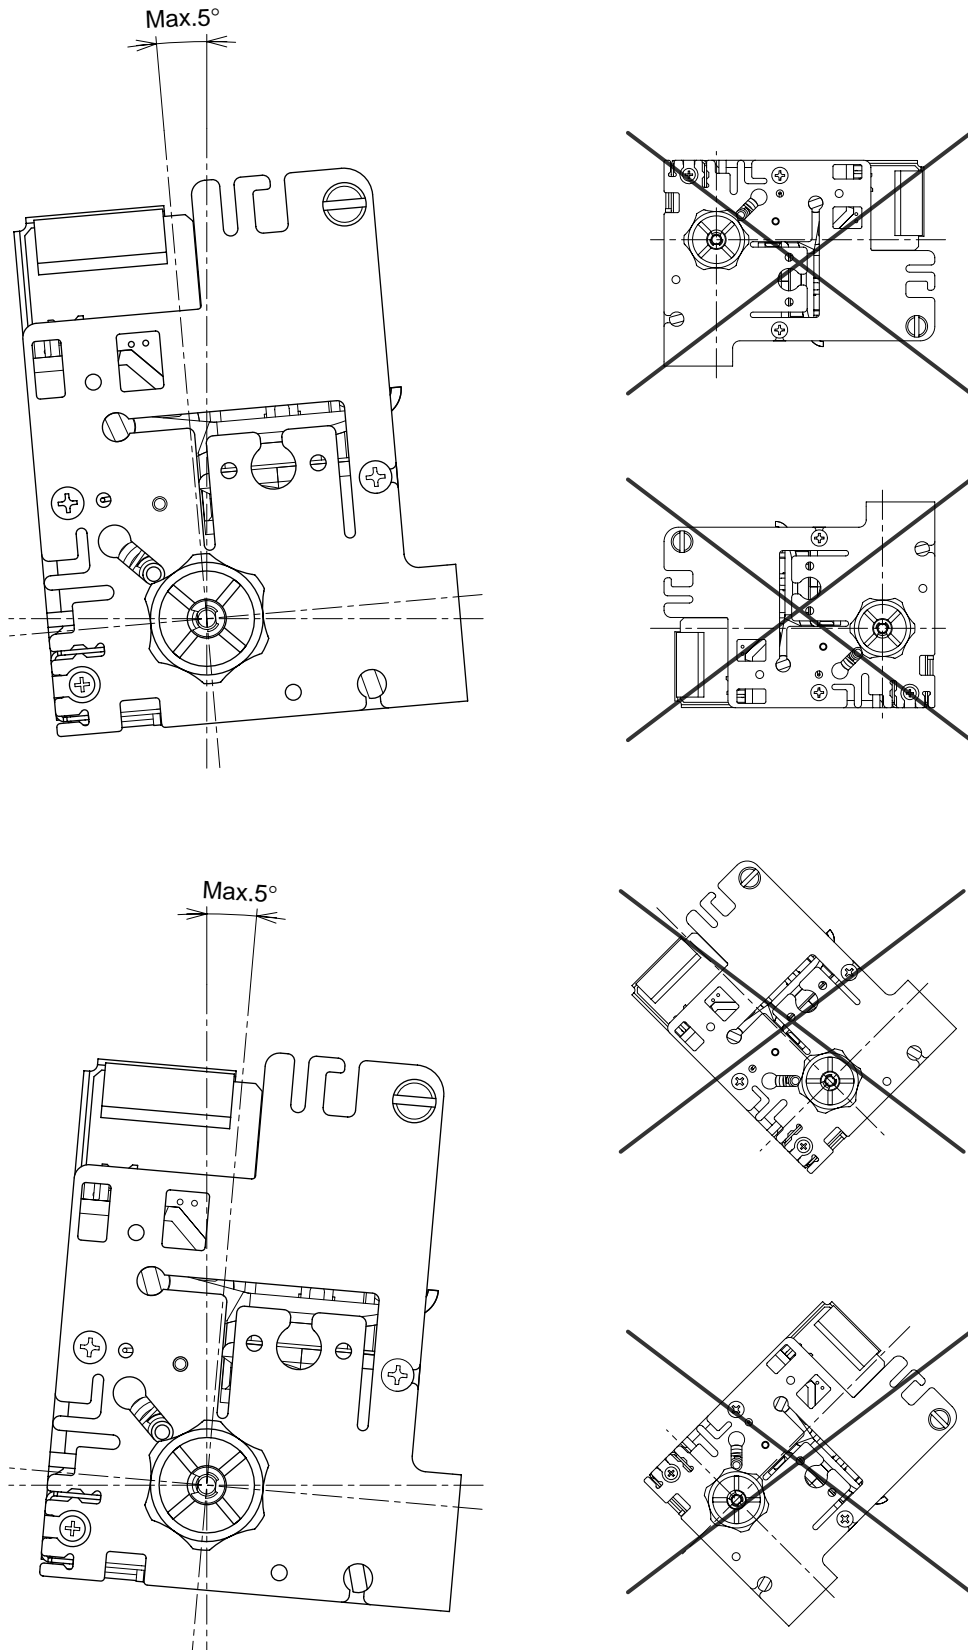

Figure 12
- 5) The setup angle for the presenter should be a maximum of $\pm 5^\circ$, as shown in Figure 12.